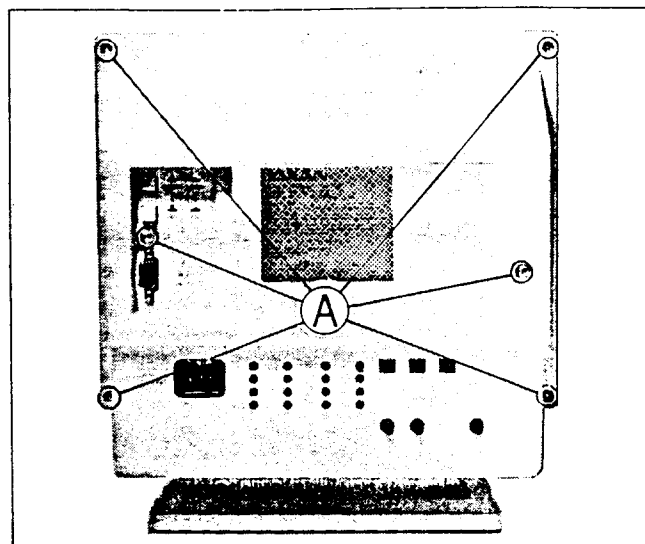

Fig. 1
2. Unscrew the six screws marked (A) shown in Fig. 1.